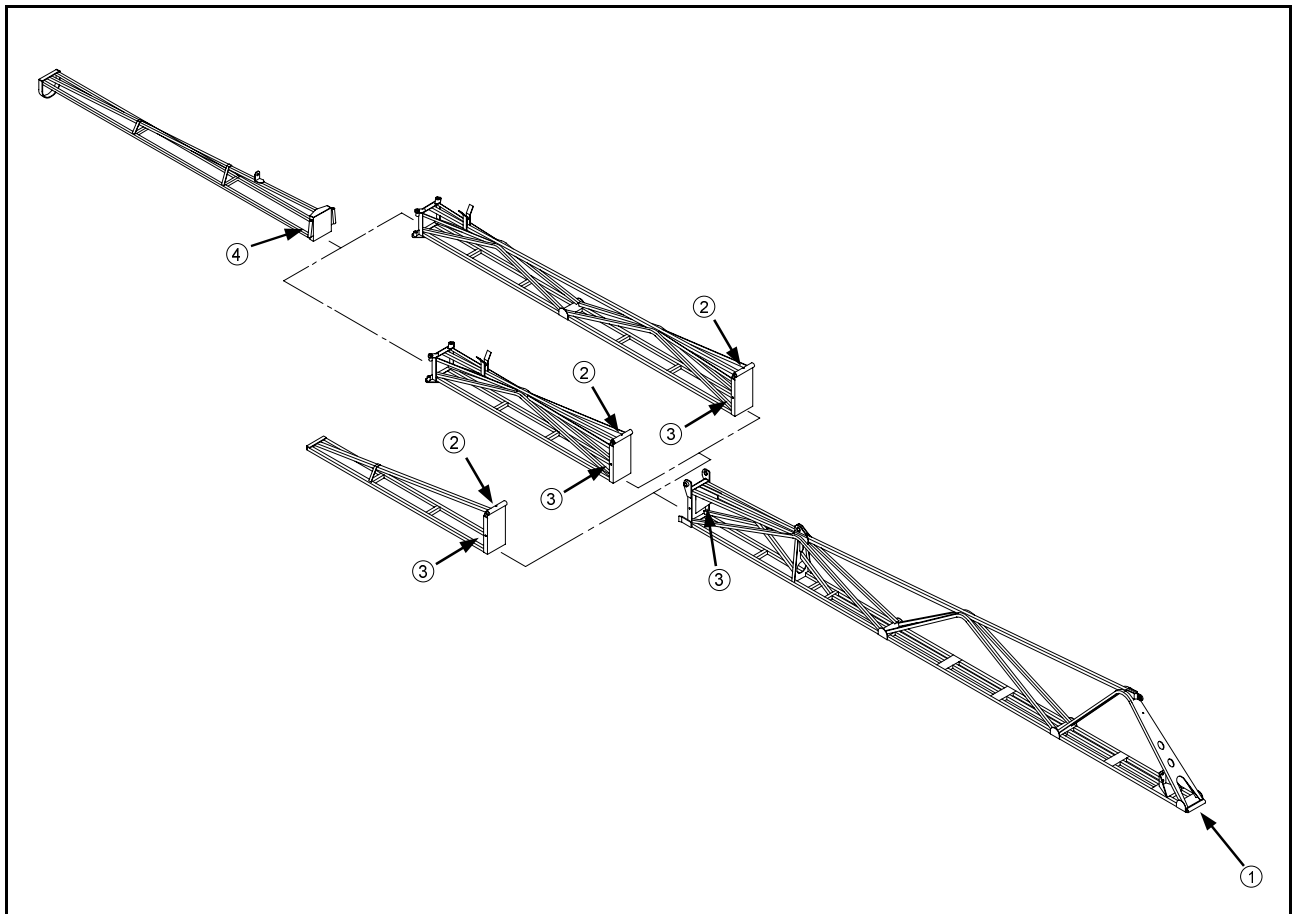

FIG 8.39
Sixty foot boom options have a grease zerk on the boom level pivot point connected to the breakaway (fig. 8.39, item 1), on the boom extension vertical folding pivot point (fig. 8.39, item 2), and on the boom folding link clevis pins (fig. 8.39, item 3). Eighty and ninety foot boom options also have these zerks in addition to zerks for the folding pivot of the outer boom breakaway (fig. 8.39, item 4). Check all and grease as required.